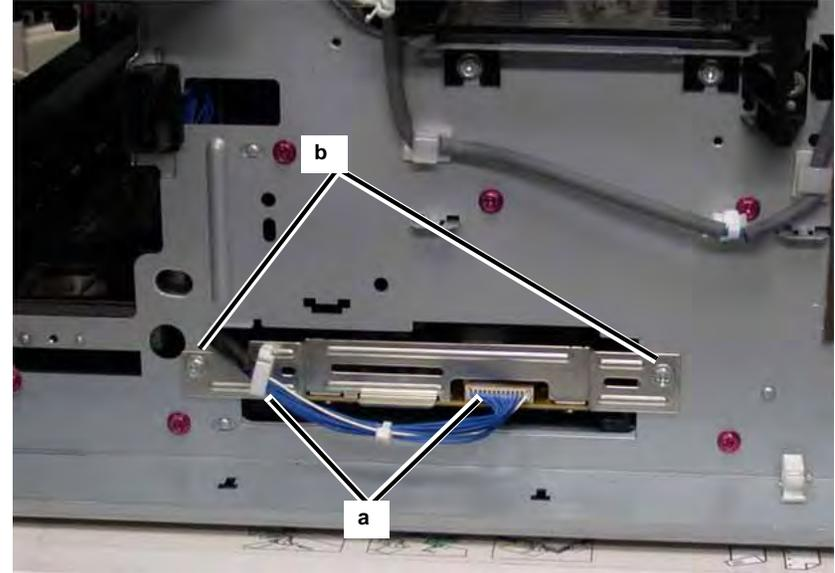

Figure 6 Removing The HVPS
7. Remove the HVPS (Figure 6).
- b. Remove the Screws (2) and pull the HVPS out.